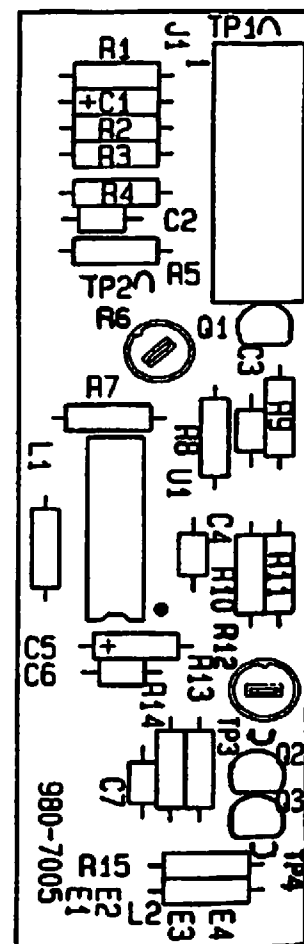

Figure 5-3. AIL PCB Board
- Wait 45 seconds, then turn R6 (see Figure 5-3) on the AIL PCB board through its full range to obtain the maximum signal on scope channel #1; voltage should be >800 mV (p-p). Record the p-p voltage.